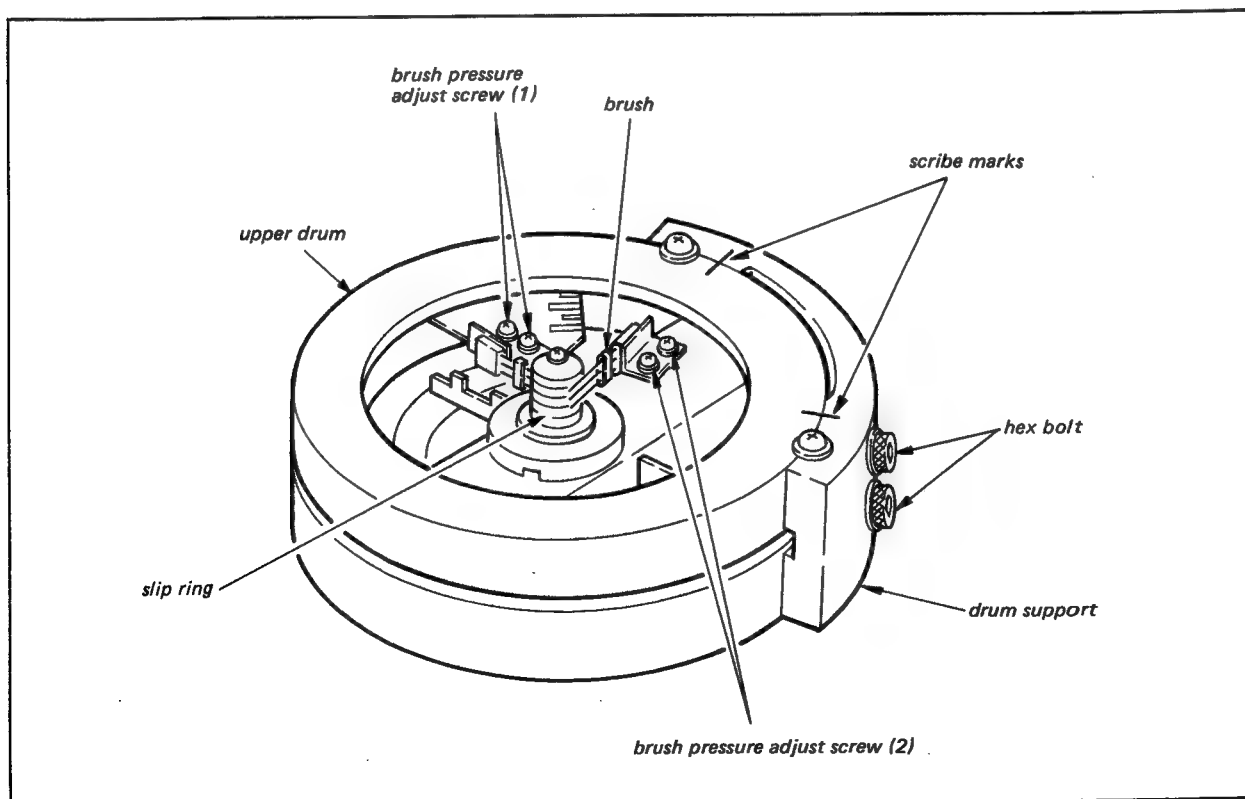

Fig. 7-4
3. Loosen the four brush pressure adjusting screws (1) and (2) as shown in Fig. 7-4 and move the brushes away from the slip rings.
4. Put a reference mark on the upper drum using a scribe and straight edge as shown in Fig. 7-4.
5. Remove the upper two Hexagon Socket Head Bolts 5 x 20 and washers as shown in Fig. 7-4 using a special 4 mm Allen wrench as shown in Fig. 7-6 or removing the erase head as shown in Fig. 7-5. Hold the upper drum with one hand so that it does not fall as you withdraw the two screws.